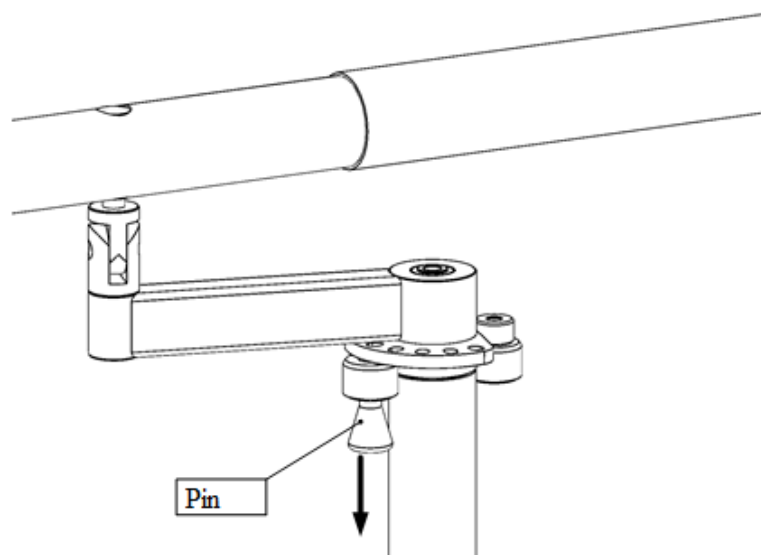

Figure 10 – Location of adjustable handrail fasteners for width adjustment
- Release the handrail by pulling down the pins located at the front and rear parts of the handrail (see Figure 10).